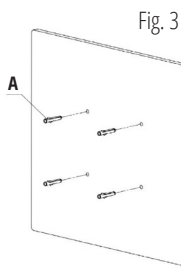
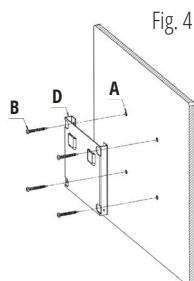

Fig. 3
Fig. 4
STEP 2. FIX THE WALLBOX. As shown in Fig. 3 and Fig. 4, install the wall mount.
Fit the wall box onto the wall mount D, as shown in Fig. 4.